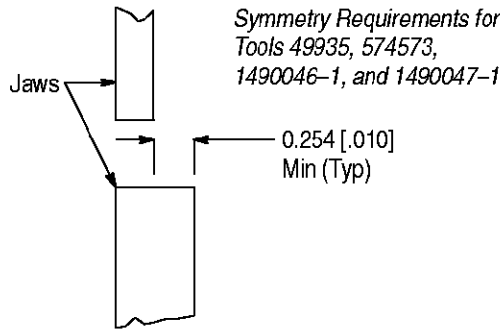

Figure 7
**NOTE** The jaws in Tools 49935 and 574573 are not symmetrically located; make sure that the tool conforms to the symmetry requirements shown in Figure 7.